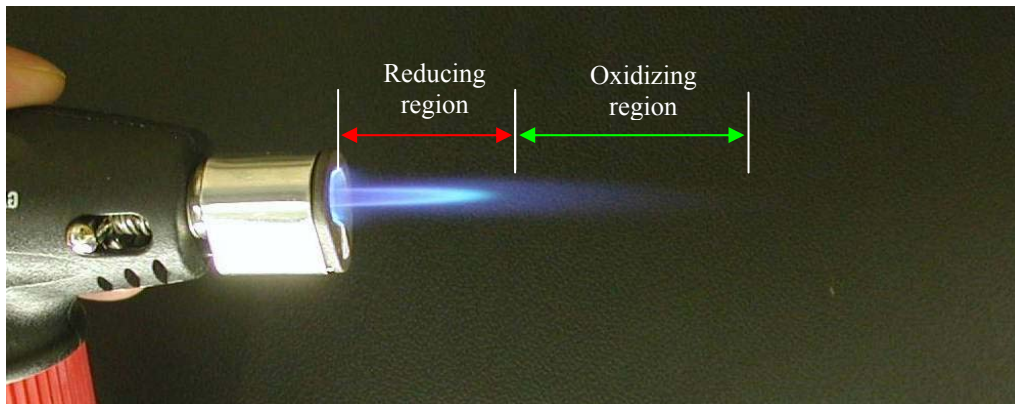

Fig. 22 Oxidizing and reducing regions in a butane/propane torch flame.
- While using the torch to clean the pins make sure that the pins stay in the oxidizing region of the flame (as indicated by the green arrow in Fig. 22). This is because when the torch gets too hot or too cool, unwanted compounds can be created and deposited as hydrocarbon soot onto the pin surface.